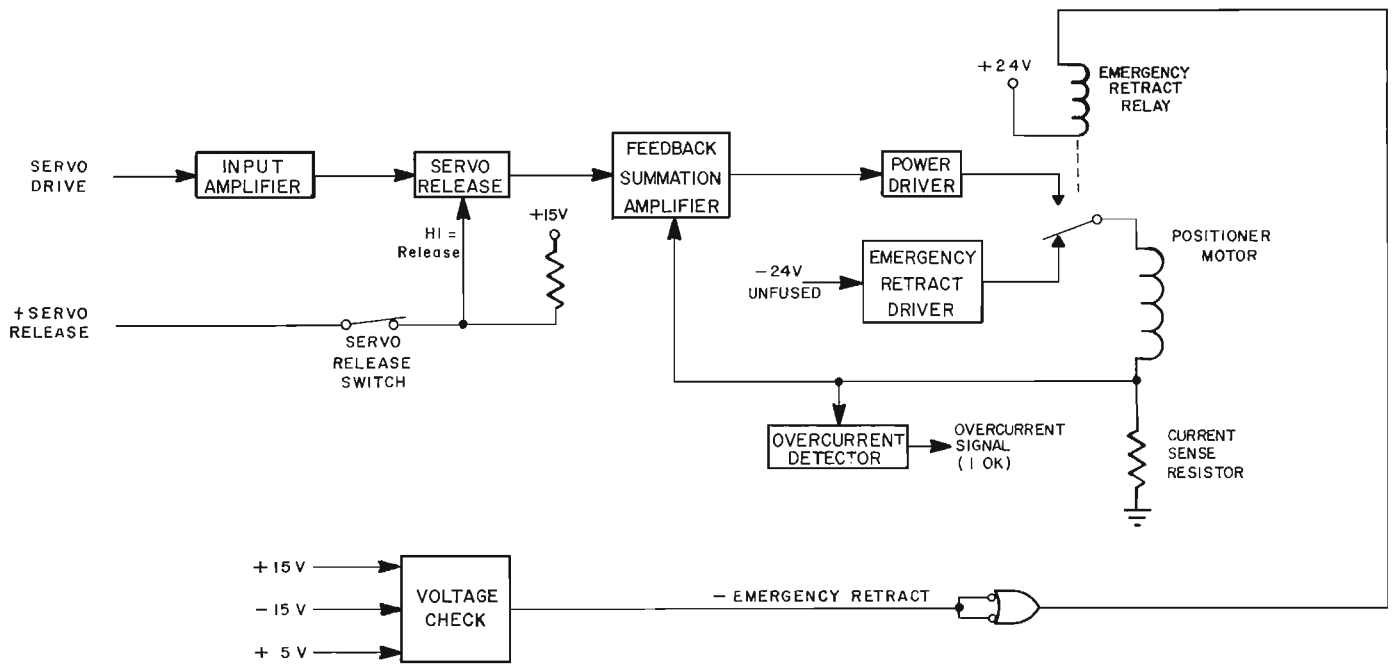

Figure 4-37. HEAD POSITIONER DRIVER BLOCK DIAGRAM
Current for the head positioner motor is provided by a network similar to current switch 3 and current switch 4 of the spindle motor driver circuit. The major functional difference in this network is that the current developed for small signals is directly proportional to the amplitude of the drive signal. For large signals, the current is limited to approximately 7A by feedback from the current sense resistor (B47) to the Feedback Summation Amplifier. Currents of this magnitude for longer than 32 milliseconds cause a "SEEK INCOMPLETE" signal to be generated. A block diagram indicating the functional divisions of the positioner motor driver is shown in Figure 4-37. These divisions are: (1) an Input Amplifier, (2) a Servo Release circuit to release the head positioner from servo control, (3) a Feedback Summation Amplifier to limit motor current by negative feedback, (4) a Power Driver to provide adequate drive current for the positioner motor, (5) an Emergency Retract Driver to retract and unload the heads if an out-of-tolerance voltage condition is detected, (6) a voltage Check circuit to produce an emergency retract command if a supply voltage failure occurs, and (7) an Over-Current Detector circuit.